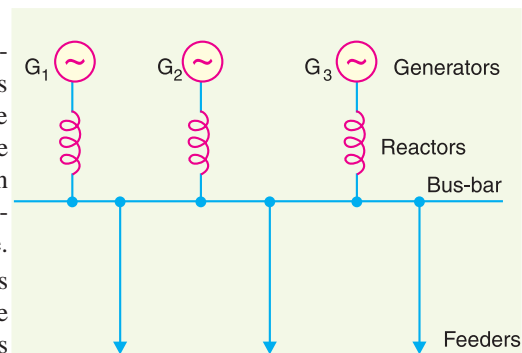

Fig. 17.4
(1) **Generator reactors.** When the reactors are connected in series with each generator, they are known as *generator reactors* (see Fig. 17.4). In this case, the reactor may be considered as a part of leakage reactance of the generator ; hence its effect is to